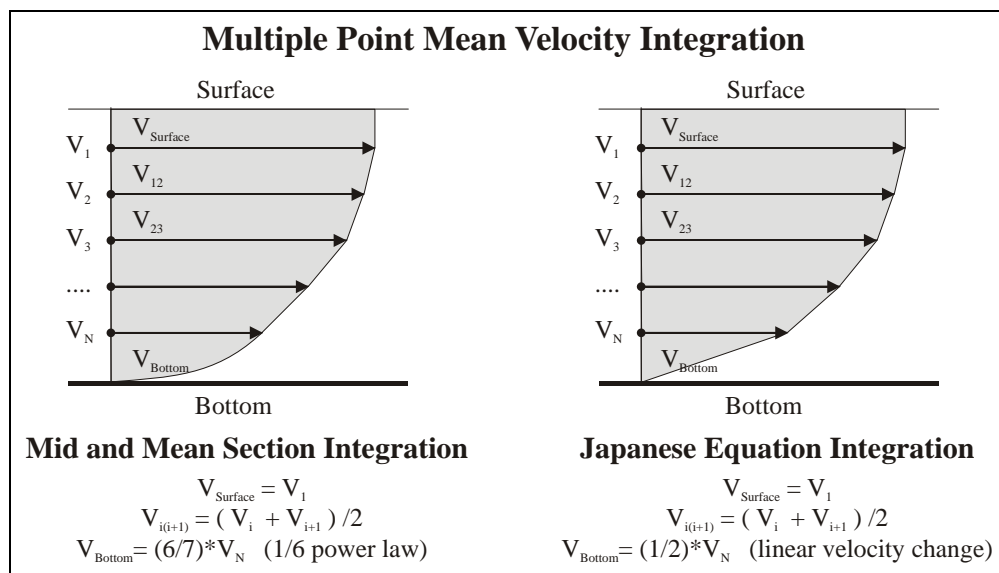

Figure 10 – Multiple Point Mean Velocity Integration
- The mean velocity is calculated by integrating all velocity measurements (Figure 10).